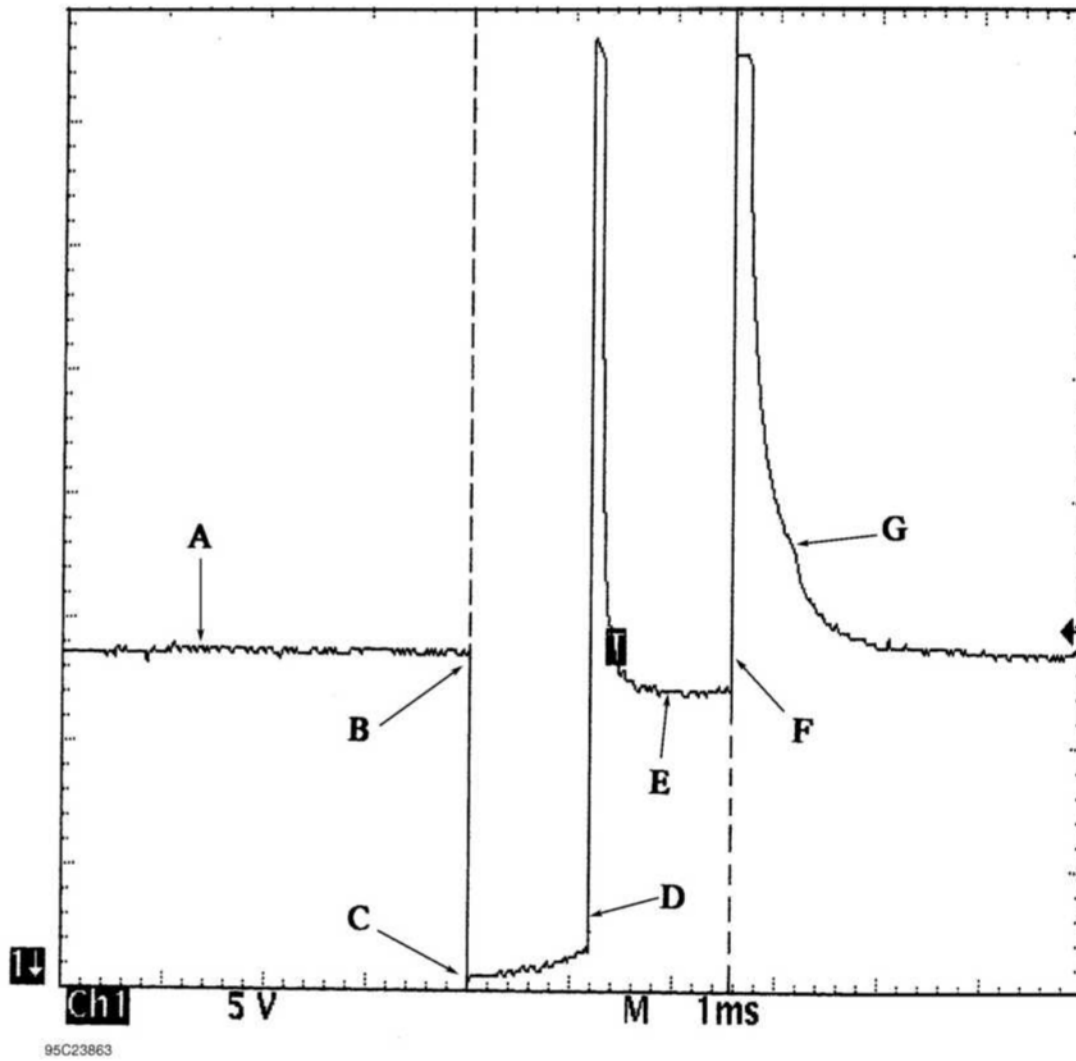

Fig. 3: Identifying Current Controlled Type Injector Pattern
- See **Fig. 3** for pattern that the following text describes.